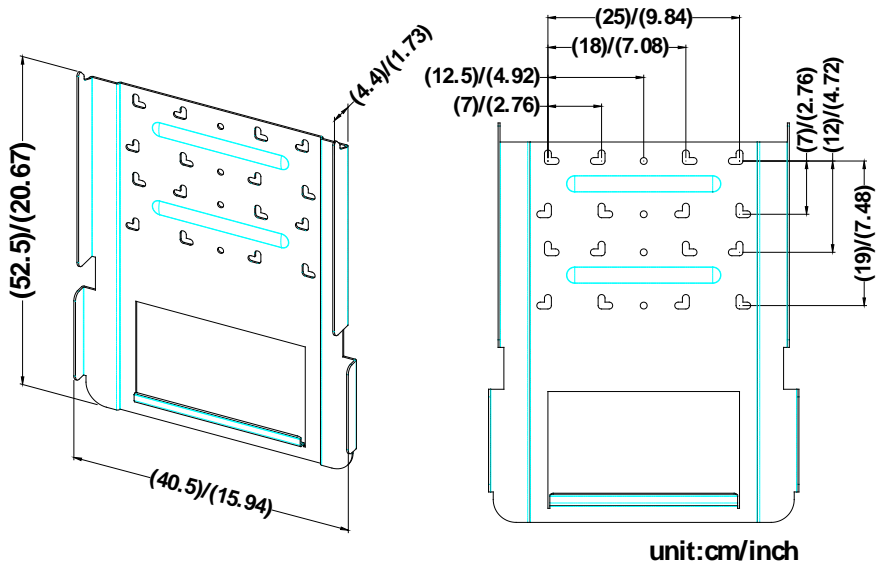

Fig 2.2.2
2. Use the bracket (figure 2.2.2) as a template to mark the location of the holes to be drilled in the wall. After drilling the holes, the mounting bracket is then held against the wall and fastened to the wall with anchors as shown in figure 2.2.3. (A minimum of three (3) screws is required)